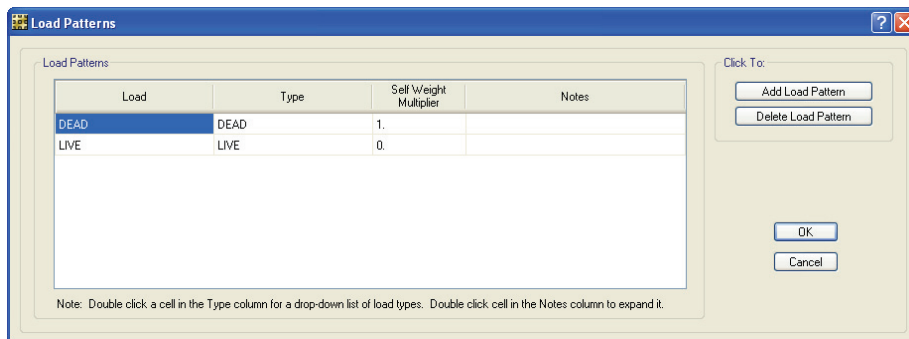

Figure 66 Load Patterns form
- A. Click the **Define menu > Load Patterns** command to access the Load Patterns form shown in Figure 66.